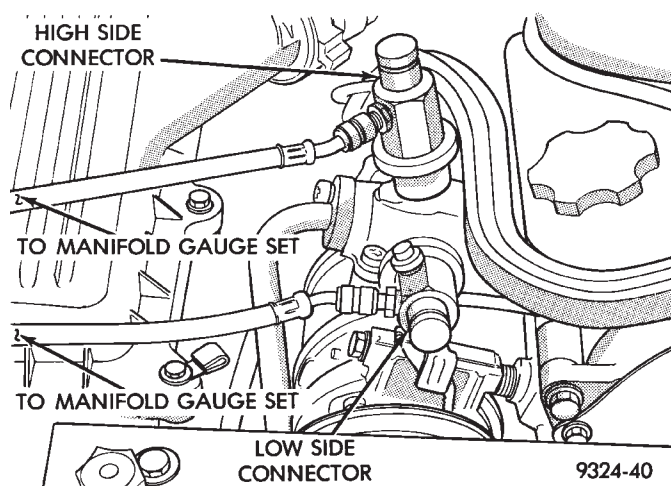

Fig. 12 Gauge Set or Refrigerant Recovery Machine Hookup
(1) Connect a suitable charging station, refrigerant recovery machine, and a manifold gauge set with vacuum pump (Fig. 12).
(2) Open suction and discharge valves and start vacuum pump. The vacuum pump should run a minimum of 45 minutes prior to charge, to eliminate all moisture in system. When suction gauge reads -88 kPa (-26 in. Hg) vacuum or greater for 45 minutes, close all valves and turn off vacuum pump. If the system fails to reach specified vacuum, the refrigerant system likely has a leak that must be corrected. If the refrigerant system maintains specified vacuum for at least 30 minutes, start the vacuum pump, open the suction and discharge valves. Then allow the system to evacuate an additional 10 minutes.
(3) Close all valves. Turn off and disconnect the vacuum pump.
(4) The refrigerant system is prepared to be charged with refrigerant.